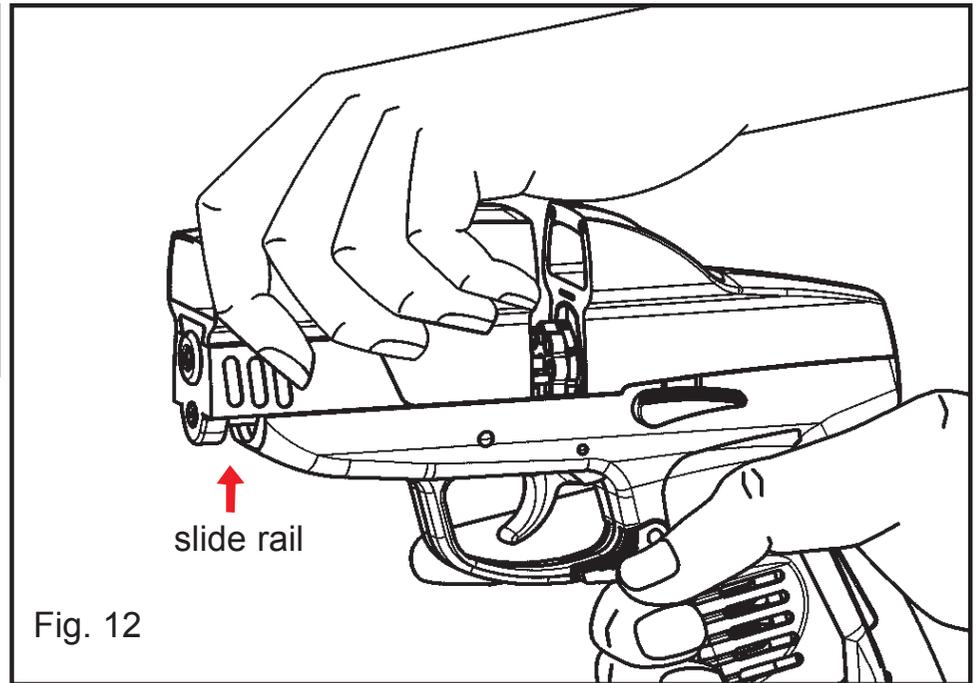

Fig. 12
- Close the air pistol by gripping the slide and pushing it back until it locks into place (Fig. 12).
- Close the slide by pushing it all the way back until it locks into place (See Step 4.1) (Fig.12).
- Your airgun will maintain proper function longer if you oil it every 250 shots. Put 2-3 drops of Crosman 0241 Pellgunoil on the slide rails (Fig.12.).